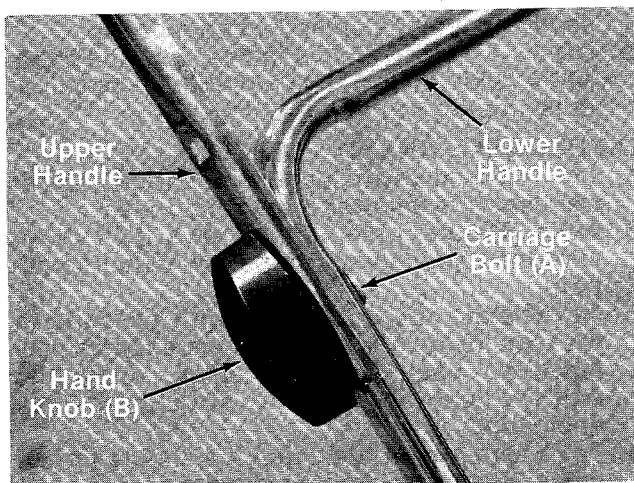

FIGURE 3. Folding Handle Only
- A. Units with Folding Handle—Secure upper handle with two curved carriage bolts (A) and hand knobs (B) as shown in figure 3. The knobs may be assembled either to the inside or the outside of the handle.